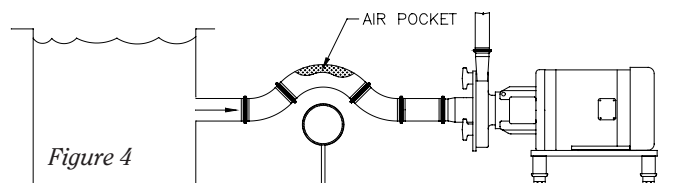

Figure 4
- Avoid the formation of air pockets in the piping (*Figure 4*).